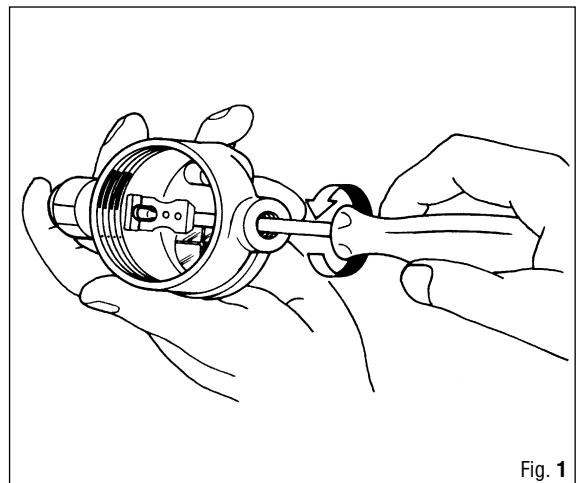

Fig. 1
14. Remove the diaphragm retaining ring (78), the diaphragm (36) and the spacer ring (90) from the 2nd stage case (32).
15. Unscrew the case plug (64).
16. Remove the O-Ring (72) from the case plug.
17. Exerting a slight pressure, push the adjuster connector (87) inward and remove the O-ring (83) from its seat in the 2nd stage case (32).
18. Using the special wrench (B-12), back off the adjusting nut (33) from the poppet stem (30), removing the demand lever (35), the washer (34) and the spring (31) (Fig. 1).